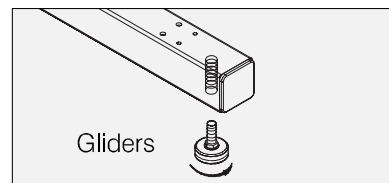

Fig. 7A
- A. Adjust height of Gliders (or Casters) on both sides by turning them counter clockwise until structure is completely stable (Fig. 7A & 7B).